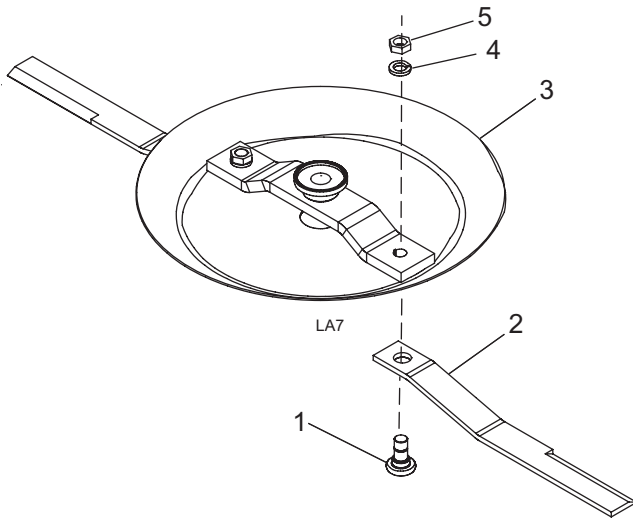

Figure 13. Blade Removal (BB84 Shown)
2. To make crossbar removal easier, remove blades as shown in Figure 13.